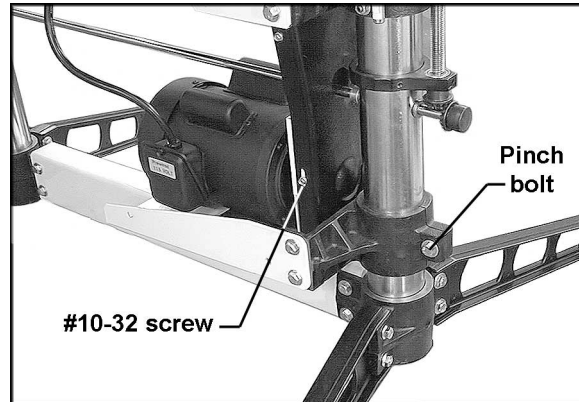

Figure 27
1. Release v-belt tension from motor by loosening pinch bolt of motor support (Figure 27).
2. Loosen two lower #10-32 screws in belt guard (Figure 27 shows one of the screws). Slide motor support up the column and re-tighten pinch bolt.
6. In this position, the drum should be resting on the templates and both tension rollers resting on the conveyor surface. Re-tighten bearing bolts and restore v-belt tension. Tighten pinch bolt in motor support and tighten two lower screws in belt guard (Figure 27).